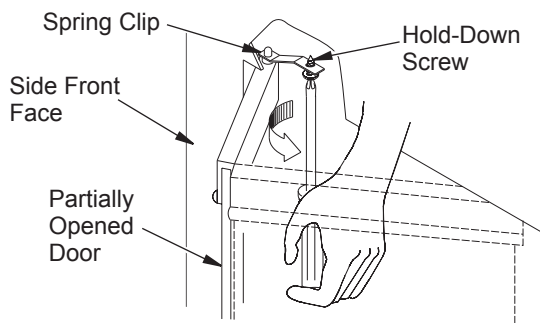

Figure 36 - Adjusting Glass Doors
7. To adjust the doors, slide them partially open. Using a screwdriver, loosen the hold-down screws in the spring clip (see Figure 36) and pivot plate.